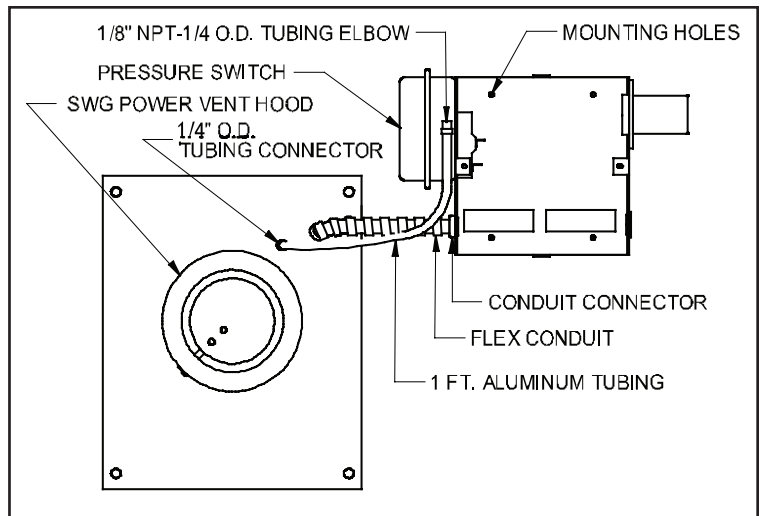

Figure 3
2. Fasten the flexible conduit from the SWG Venter into the conduit connector. Mount the CK-51 junction box or installer supplied junction box onto the wall or floor joist without straining the flexible conduit. Fasten the CK-51 junction box through the four dimpled locations on the base of the box. (See Figure 3)